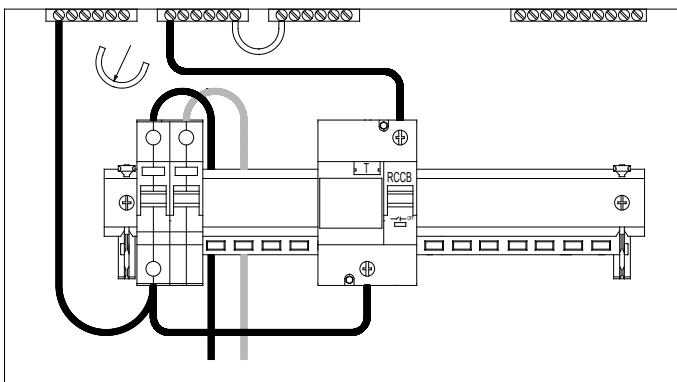

Fig 5.3
- **Units with 3 neutral bars. (Fig 5.3)** Remove one of the solid neutral links (according to the required split of the unit) from between the neutral bars.